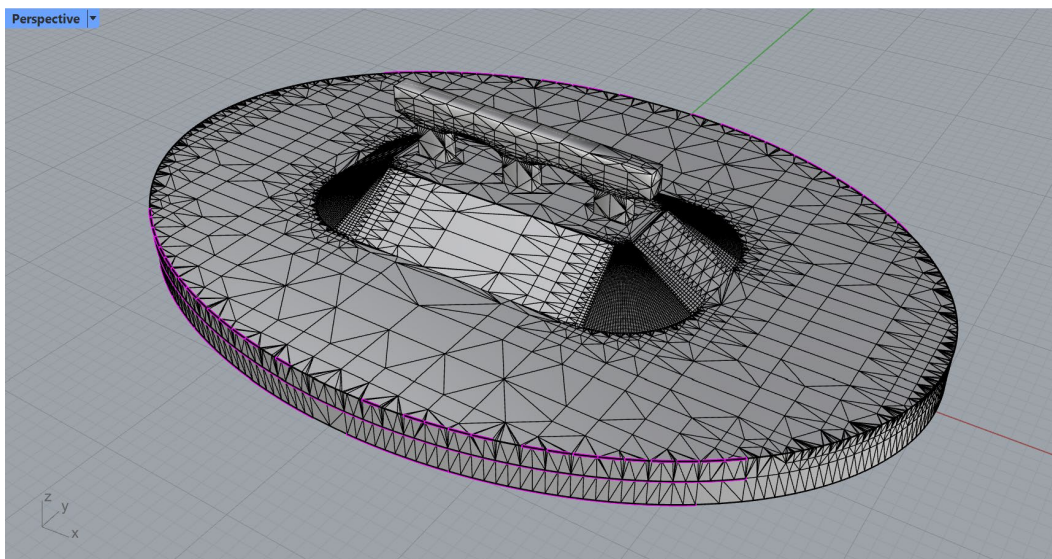

Figure 23: Naked edges (in pink) after using GInt with *Tolerance* = 0.005.
8. To further check if there are any gaps or non-conformal edges/faces left, we can join all 22 meshes and check their connections. To do this, select the resulting meshes using **_SelMesh** and type **_Join** to create a single mesh. Then, check the connections for non-conformal edges by typing **_GHeal** or by clicking on the  icon in the *Griddle* toolbar. Select the *ShowErrors* option, which creates an output layer containing potential issues in the input mesh. The result – pink outlines, shows that there are still some non-conformal faces (Figure 23). These are likely small, hard to see areas that went unnoticed while looking over the preview.